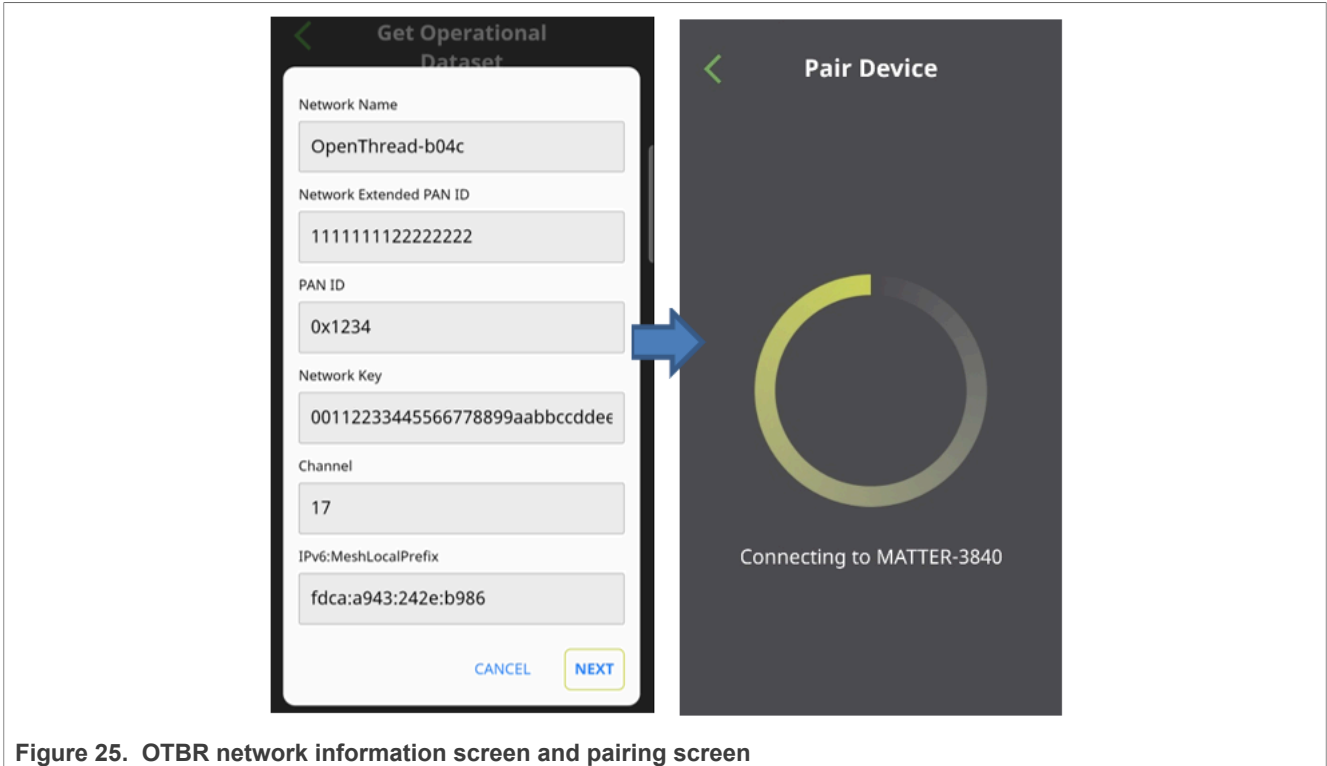

Figure 25. OTBR network information screen and pairing screen
4. Wait for the new prompt screen and then press the SW2 button on the W71 board to start the Bluetooth LE advertising. Press the NEXT button, as shown in Figure 25.